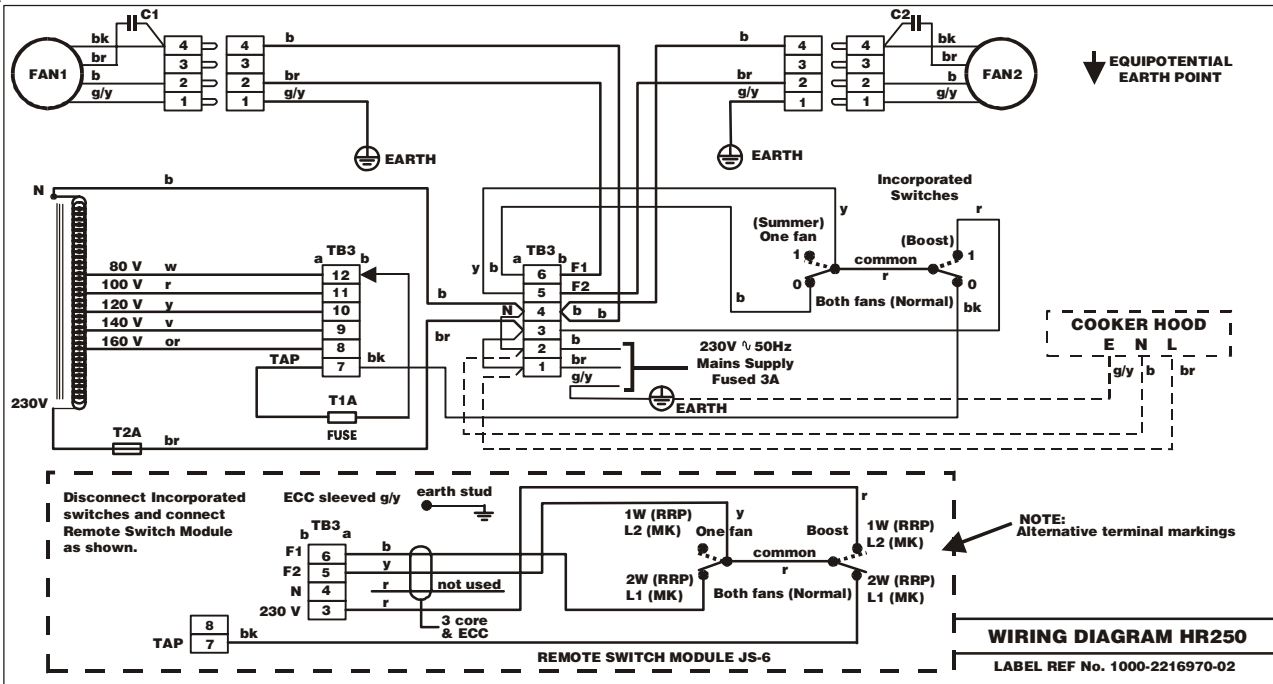

Fig. 9
2.9.6 Referring to Fig. 9, connect the canopy electrical cable as follows: